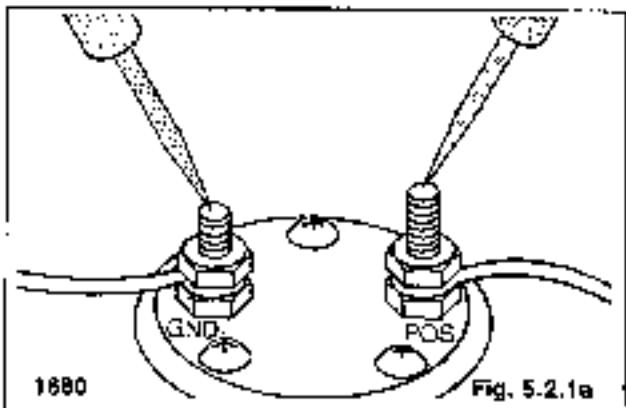

Fig. 5.2.1a
- With the key switch off, connect one ohmmeter lead to the ground terminal of the fuel sender (Fig. 5.2.1a). Connect the other ohmmeter lead to the positive terminal of the fuel sender.